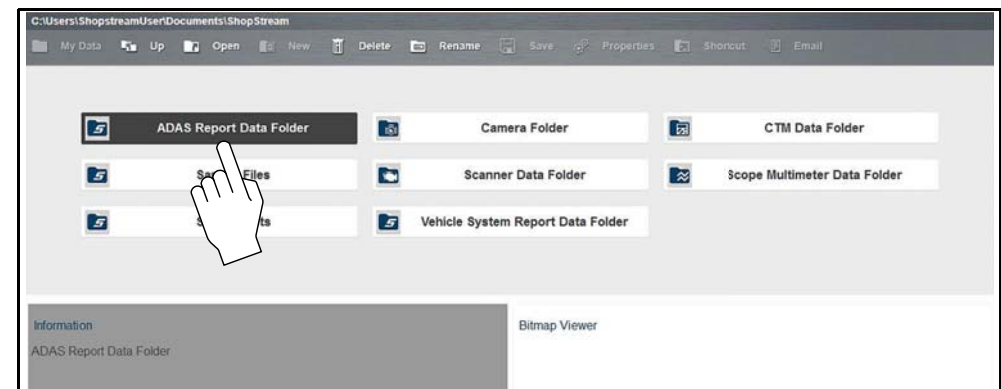

Figure 16-5
2. Select and open the ADAS Report Data Folder (Figure 16-5).